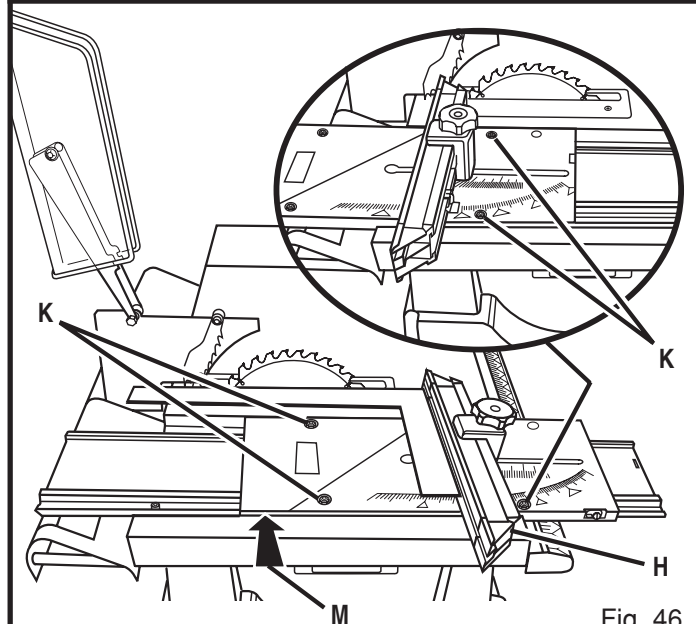

Fig. 46
- Set the miter fence (H) at 0° as shown in figure 46. Miter indicator (I) should be set precisely on 0° and secured in place with adjusting clamp (F).
- Push left rear of miter table snugly against miter base as shown by the arrow (M) in figure 46 and secure.